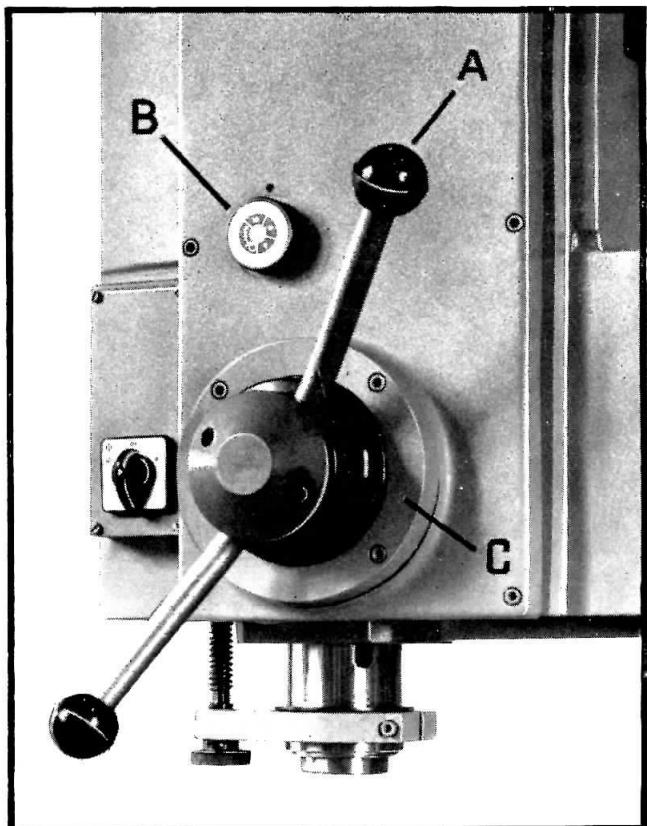

FIG. 6
flange (C) Fig. 6 of the power feed.
The spindle can be operated by hand feed or power feed simply by positioning feed control lever (A) Fig. 6. When the feed control lever is in the «out» position the spindle can be lowered manually by hand. When the feed control lever is in the «in» position the power feed is engaged and the spindle lowers automatically. The power feed device provides feed rates of .004, .006 and .010 ipr (inches per revolution). The feed rate selection is made by turning the knob (B) Fig. 6 until the number of the feed rate desired is in the up position. This selection may be made while the machine is running but **not** under load.
The power feed may be disengaged at any time by pulling out the handle (A) Fig. 6. The power feed will also disengage automatically at the end of the pre-set stroke, however, the handle must be pulled out to return the quill to the up position.
**F — TABLE RAISING MECHANISM (FIG. 6)**
056	PLS SEE FIG. 6/7